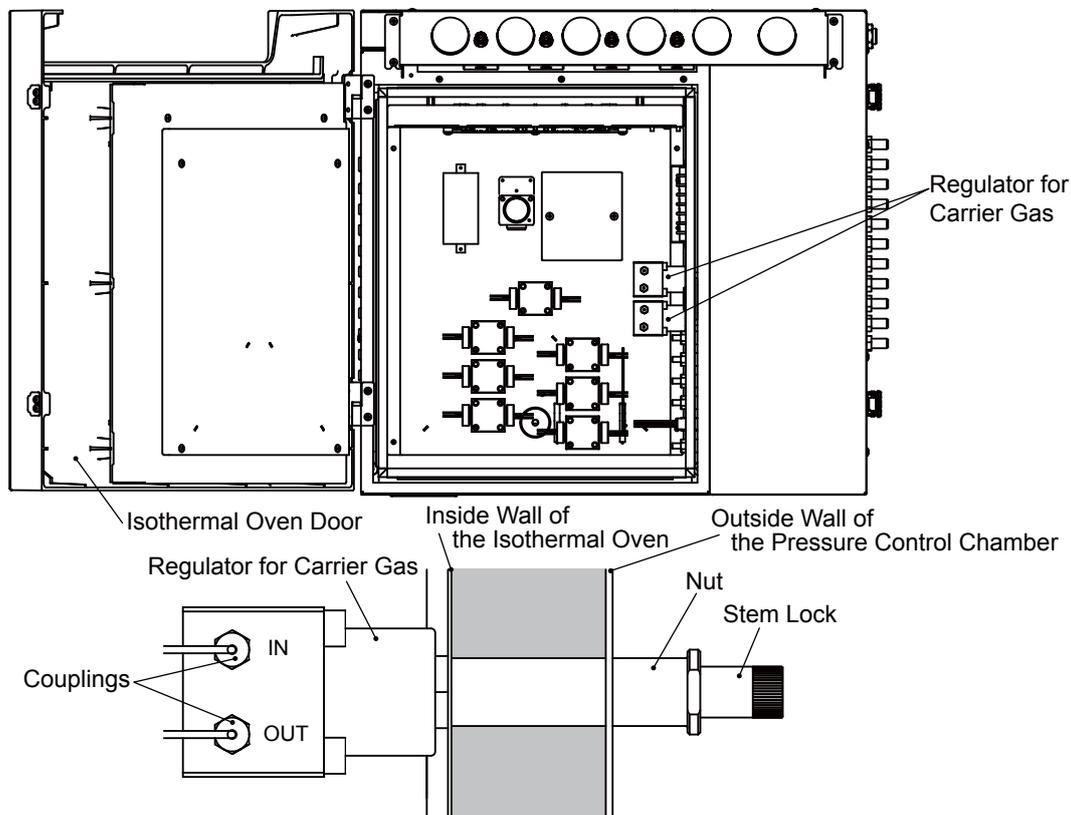

Figure 6.19 Regulator for carrier gas
This regulator is installed in the isothermal oven and used to control the carrier gas pressure (see Figure 6.19).
- (3) Turn off supplies of carrier gas, utility gases (FID hydrogen gas for combustion and FID combustion air) and samples.
- (4) Open the control unit door using a key included in the accessory kit. And remove the cover by removing the two screws of the pressure/flow control section.
- (5) Remove the couplings connected to the inlet (IN) and outlet (OUT) of the regulator. See Figure 6.19. Label the couplings with "IN" and "OUT" for ease of identification later.